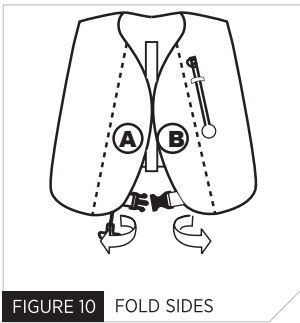

FIGURE 10 FOLD SIDES
1. Fold sides (A) and (B) outward along dotted lines. Secure with Velcro™ (Fig. 10).